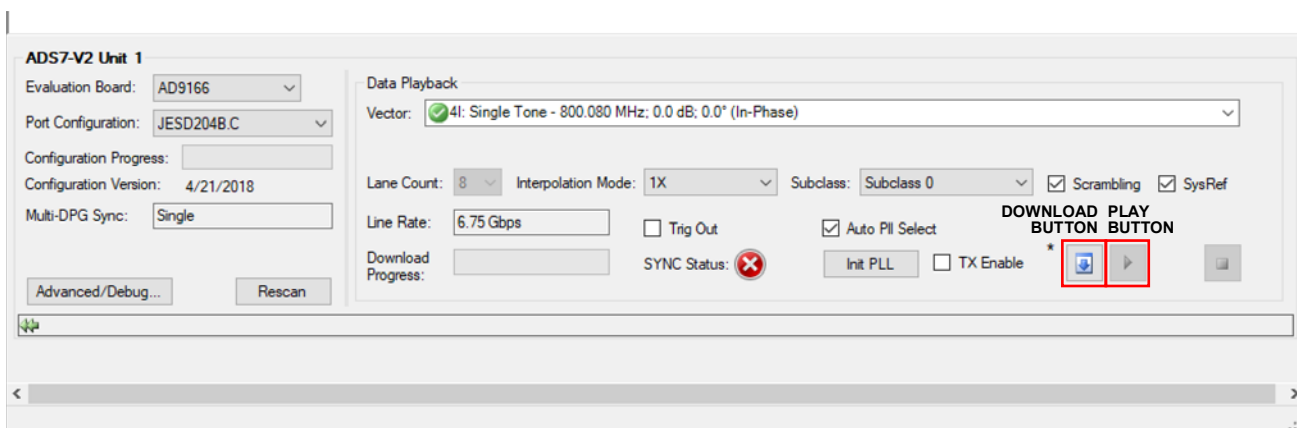

Figure 11. DPGDownloader: Selected Vector and Downloaded to the ADS7-V2EBZ
12. Leave the other options at the default values. The **SYNC Status** indicator may show a red cross, as shown in Figure 11.